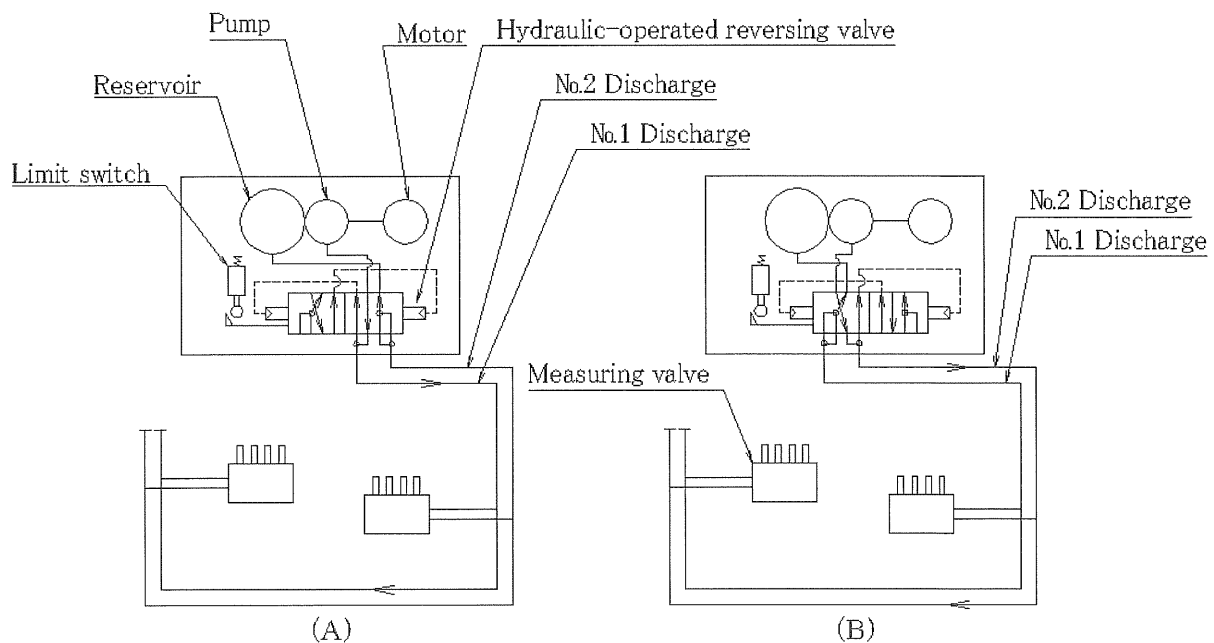

Fig.2 Lubricating circuit
The lubricating cycles described and illustrated in Fig.2 (A) and (B) are alternately repeated until the lubricating operation is completed.